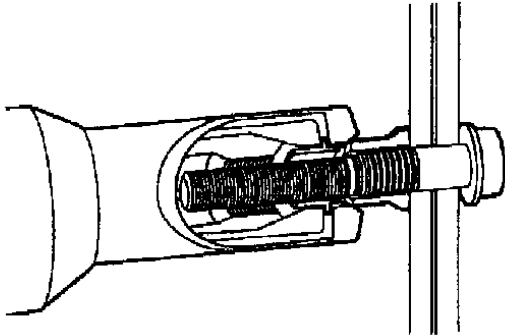

Figure 10 Place Installation Tool Over Fastener Pintail
3. Place the Huck installation tool over the HP 8 fastener pintail (See Figure 10, page 19).